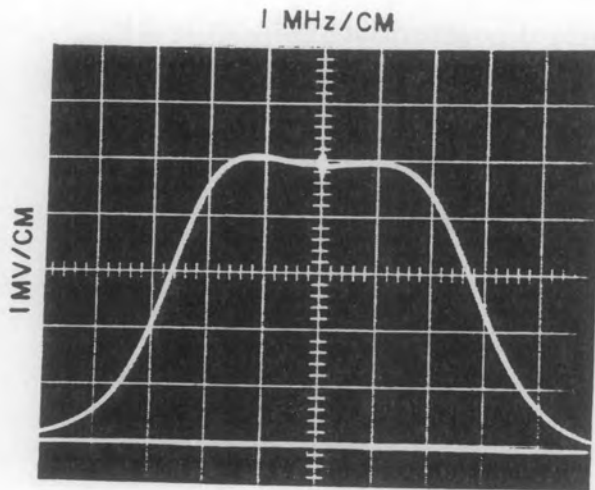

Figure 4-8. Typical Response,
- (2) Tune the signal generator to 21.4 MHz, cw, at a level to produce a convenient marker.
- (3) Tune the sweep generator center frequency to 21.4 MHz, at a level of -25 dBm (12 mV). Establish a sweep width of about 5 MHz.
- (4) Set the oscilloscope for viewing a sweep response.
- (5) Adjust coils L1, L3, and L4 on input amplifier A1A1 to obtain a detector response like that shown in figure 4-8. Then disconnect the high impedance detector.